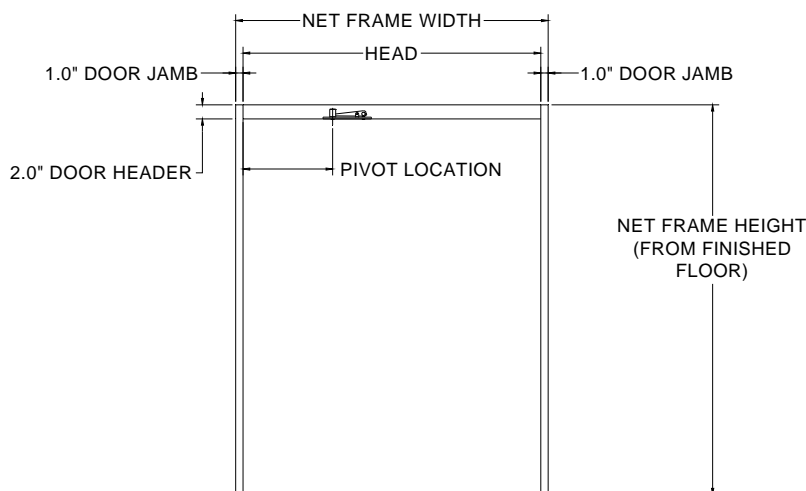

Figure 4:
2. Remove the frame(s) from the packaging and lay it in front of the opening. Check door net frame width and height dimensions (Figure 4).